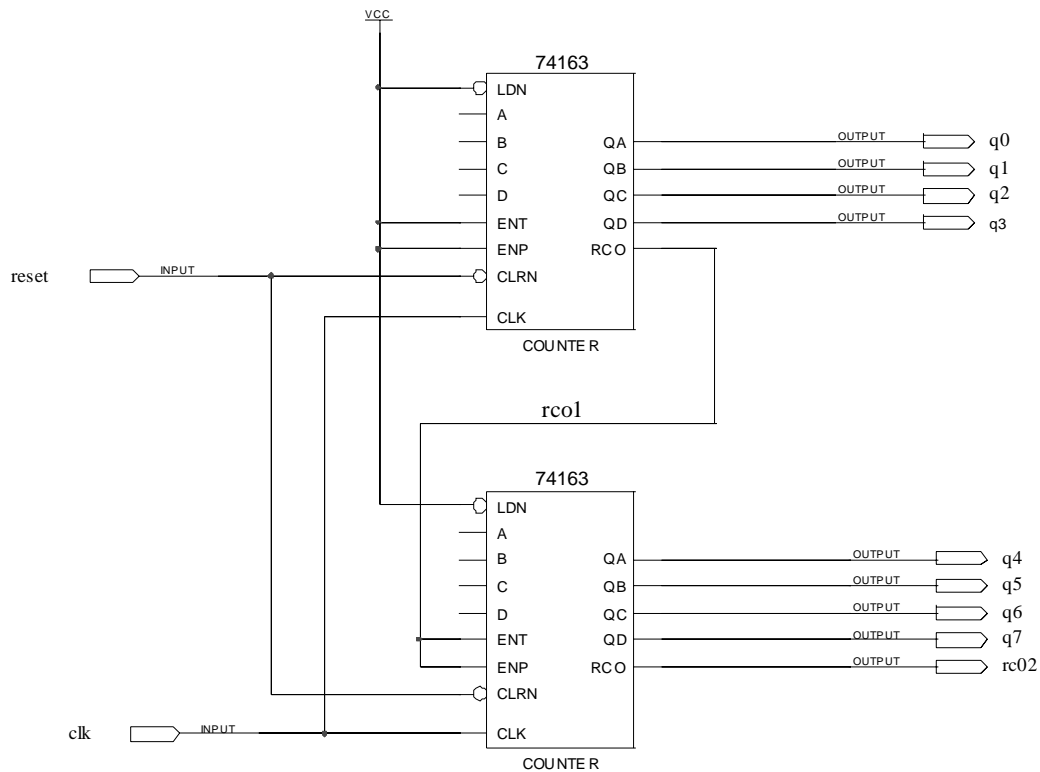

FIGURE 1. Simple 8-bit Counter
- Wire the two 74163 components into an 8-bit counter circuit as shown in Figure 1.
- Place **input** and **output** components on the schematic as shown in Figure 1. You'll find input and output components in the "primitives->pin" library.
- Label the RCO output which connects to the ENT and ENP inputs of the other 74163 component as "rco1" as shown in Figure 1. We want to label this internal net so that we can view a trace of this signal during simulation.
- Label the input and output pins by double-clicking the LMB on PIN\_NAME and typing the name for each pin as shown in Figure 1.